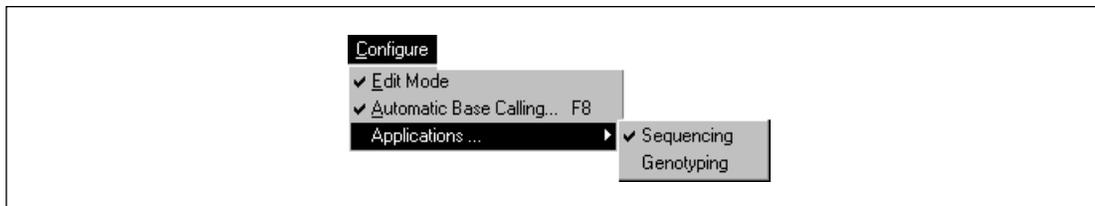

Figure 6-19. The Configure menu with the sequencing application selected.
1. From the Configure menu, point to **Applications** and then choose **the name of the application** you want to use (sequencing or genotyping). A check mark appears in front of the selected application (figure 6-19).